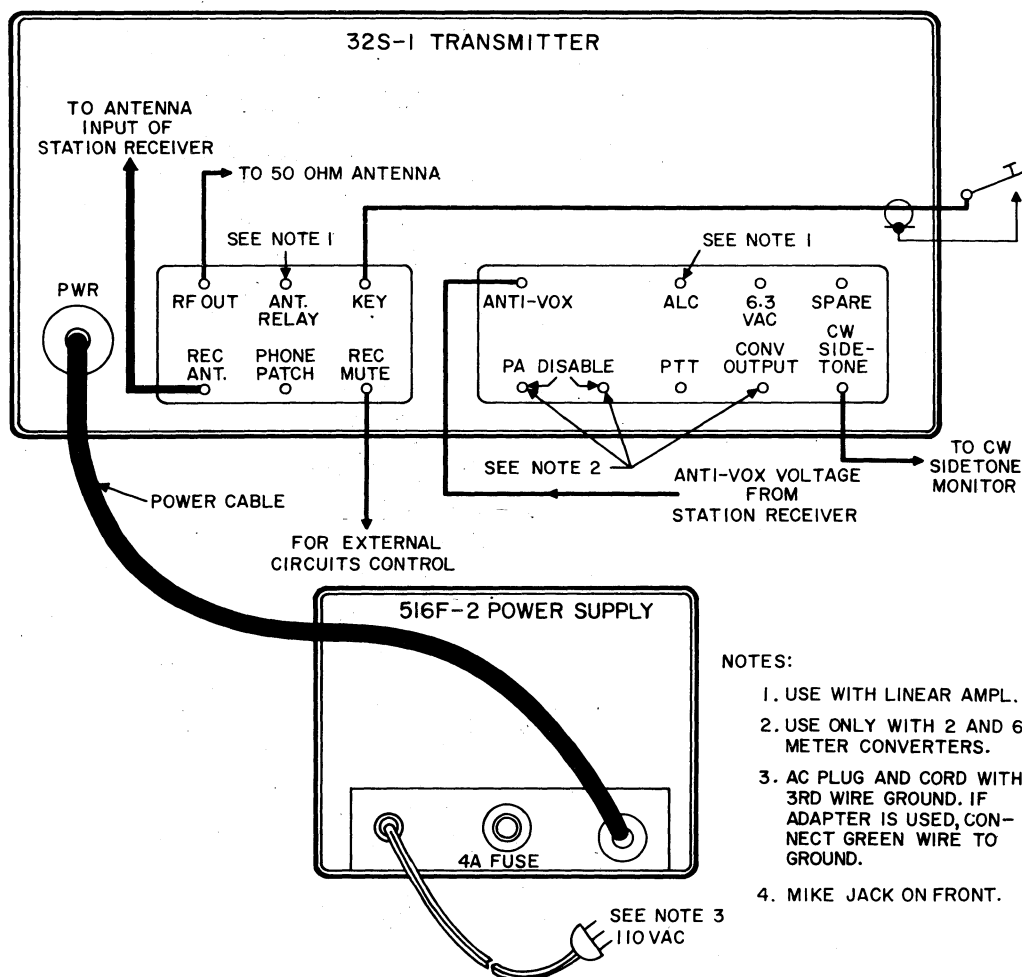

Figure 1-1. External Connections
Connect transmitter to receiver, power supply, and antenna as shown in figures 1-1, 1-2, or 1-3. The RG-58C/U cables may be identified by their slightly
larger diameter and 2-inch shorter length. Use the r-f cables where shown. The smaller microphone cables are satisfactory for a-f or control functions. Connect microphone or key as shown in figure 1-1. The 32S-1 is connected for use with a high-impedance phone patch such as the one in the 312B-4 Station Control. If phone patch operation using low-impedance phone patch, such as Collins 189A-2, is desired, modify 32S-1 as follows: Disconnect the shielded wire (white with brown tracer) from the MIC jack, and connect the center conductor to pin 8 of V1. Connect its shield to the center terminal on the terminal strip mounted near V1, pin 9. Check for continuity between PHONE PATCH jack J3 and pin 8 of V1. When using 516F-1 Power Supply with 32S-1, remove R114 from pa screens to ground and connect a shorting wire across R113 in series with screen lead.
a. Connect 32S-1 and 75S-1 as shown in figure 1-1 or 1-2.
b. Set FREQ CONTROL (1) on 32S-1 to REC VFO position.
c. Set OFF-STBY-OPR-CAL switch (1) on 75S-1 to STBY position.